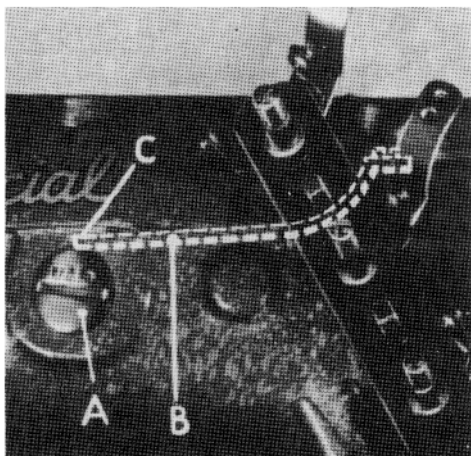

Fig. 1
Observe the location of the needle lever stud (A, Fig. 1). The head of the needle lever stud is marked with an arrow and the word "UP". These studs are set correctly when the arrow points vertically up. Also check the position of the needle lever bearing oiler (B) inside the arm casting, which lubricates the needle lever, stud. Make sure it is tilted downwardly and that its delivery end (C) contacts the inside wall of the bed casting at the back, just above the notch of the needle lever shaft stop collar. Do not allow the oil tube to rest on the needle lever.